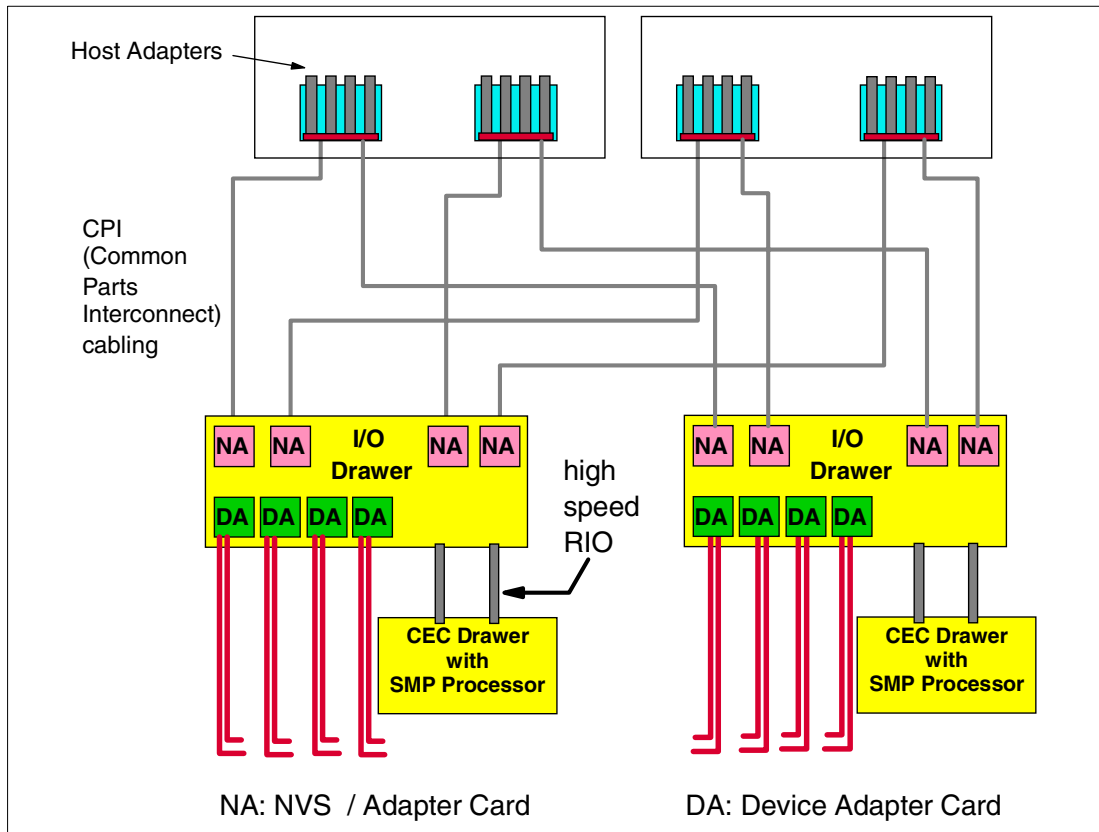

Figure 5-2 RISC SMP processors (simplified diagram)
The CPI bandwidth between the host adapters and the clusters has been significantly improved (doubled) with more powerful buses. Together, the I/O drawers provide 16 PCI slots for logic cards, eight for Device Adapter cards (DA) and eight for NVS adapter cards (NA). Each NA card has NVS memory and a CPI bus to the host adapter. Figure 5-2 presents a simplified diagram of the internal connections of the ESS.